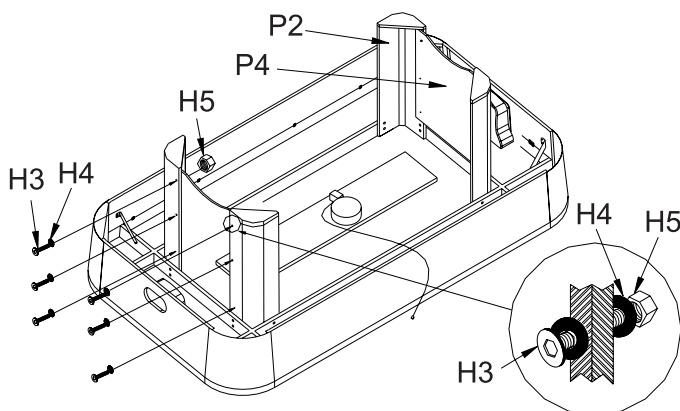

Figure 5
7. Attach the leg panels **P4** to the inside of the legs **P2** using bolts **H3** washers **H4** and nuts **H5** as shown in **Figure 5**.